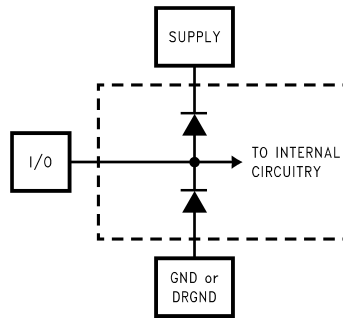

Figure 2.
- (1) The inputs are protected as shown below. Input voltage magnitudes above V_A or below GND will not damage this device, provided current is limited, see Note 4 in the Absolute Maximum Ratings table. However, errors in the A/D conversion can occur if the input goes above V_A or below GND by more than 100 mV. As an example, if V_A is 4.75V, the full-scale input voltage must be $\leq 4.85V$ to ensure accurate conversions (see Figure 2).
- (2) To guarantee accuracy, it is required that $|V_A - V_D| \leq 100\text{ mV}$ and separate bypass capacitors are used at each power supply pin.
- (3) Typical figures are at $T_A = T_J = 25^\circ\text{C}$, and represent most likely parametric norms. Test limits are guaranteed to AOQL (Average Outgoing Quality Level).
- (4) Integral Non Linearity is defined as the deviation of the analog value, expressed in LSBs, from the straight line that passes through positive and negative full-scale.
- The inputs are protected as shown below. Input voltage magnitudes above V_A or below GND will not damage this device, provided current is limited, see Note 4 in the Absolute Maximum Ratings table. However, errors in the A/D conversion can occur if the input goes above V_A or below GND by more than 100 mV. As an example, if V_A is 4.75V, the full-scale input voltage must be $\leq 4.85V$ to ensure accurate conversions (see Figure 2).
- (2) To guarantee accuracy, it is required that $|V_A - V_D| \leq 100$ mV and separate bypass capacitors are used at each power supply pin.
- (3) With the test condition for $V_{REF} = +2.0V$ (4V_{P-P} differential input), the 12-bit LSB is 977 μV .
- (4) Timing specifications are tested at TTL logic levels, $V_{IL} = 0.4V$ for a falling edge and $V_{IH} = 2.4V$ for a rising edge.
- (5) Typical figures are at $T_A = T_J = 25^\circ C$, and represent most likely parametric norms. Test limits are guaranteed to AOQL (Average Outgoing Quality Level).